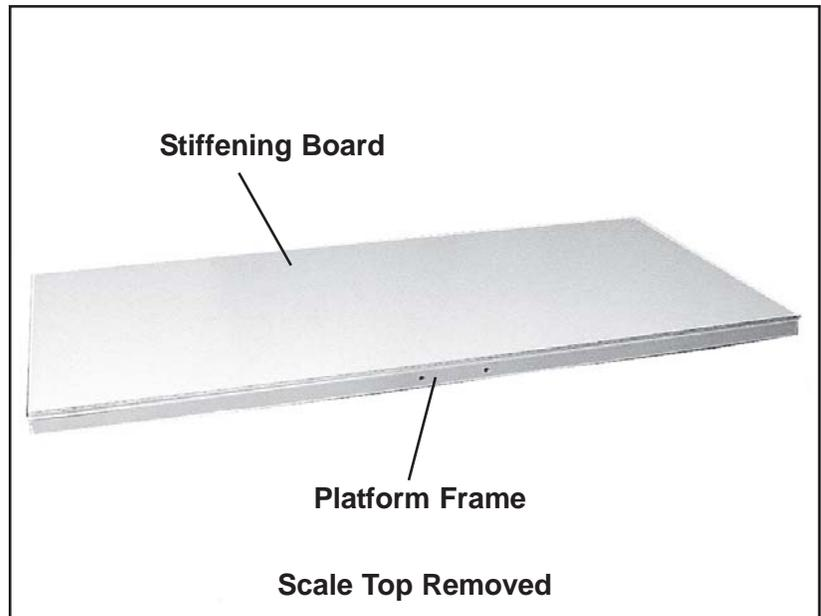

Figure 33. Removing the Stiffening Board
2. Lift the stiffening board off the platform frame (Figure 33).